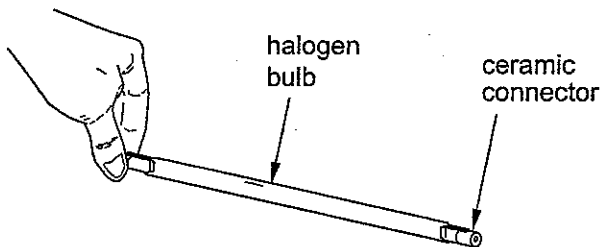

Fig. 2
- Always handle the Halogen bulb without touching the glass (by gripping the ceramic ends gently but firmly) to maximise bulb life - see Fig. 2.
- (1) Open the front cover by first turning the fastening screws anti-clockwise.
- (2) Remove the bulb by gently releasing the ends from the spring clips. Keep the bulb square and do not twist the ends or apply undue force.
- (3) Before removing the new bulb from its protective packing it is important to be aware that halogen bulbs are fragile and must be handled with care at all times. Avoid touching the surface of the bulb with bare fingers. If the bulb is accidentally touched remove the finger print with a soft cloth moistened with methylated spirit.
- (4) Hold the bulb firmly but gently at the ceramic connectors at each end (see Fig. 2) and offer up to the spring mounting clips. Push the bulb fully into the clips taking care to keep it square. Do not twist the ends or apply undue force.
- (5) The front cover may then be secured by pushing firmly closed and retightening the screws.